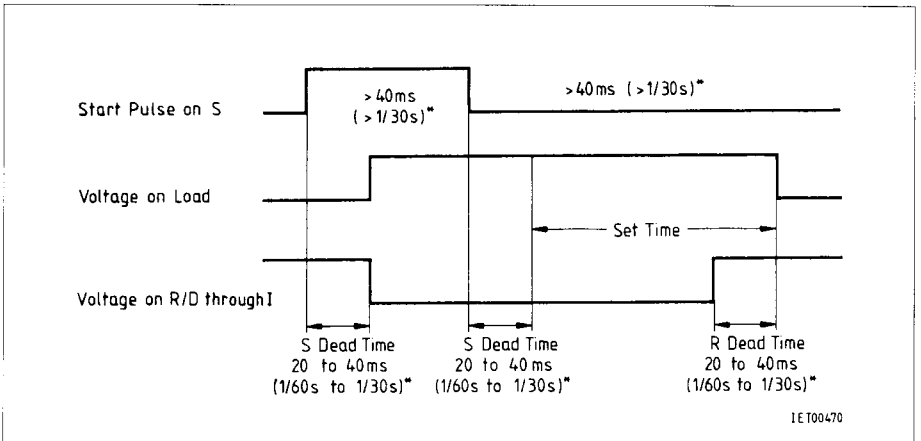

Figure 2
2. Dropout delay to DIN 46120 (**figure 2**)